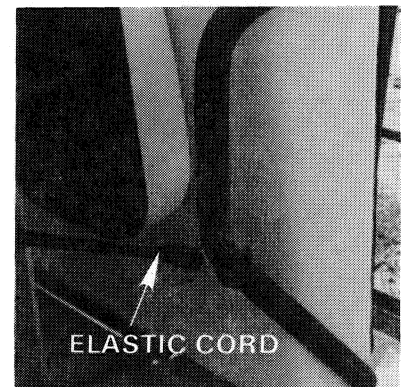

Figure 13
An optional on-board charger is available for the Tourall Electric; it should be plugged into a properly grounded nominal 115 Volt, 60 Hertz outlet. The AC line to which the charger is connected must be capable of supplying 15 amperes to each charger. The rear seat can be held up with the elastic cord while charging (Figure 13).
There is an enclosed storage compartment underneath the rear seat with two (2) cu. ft. of storage area. The rear seat can be lifted and fastened in place with the elastic cord to give access to the storage compartment (Figure 13).